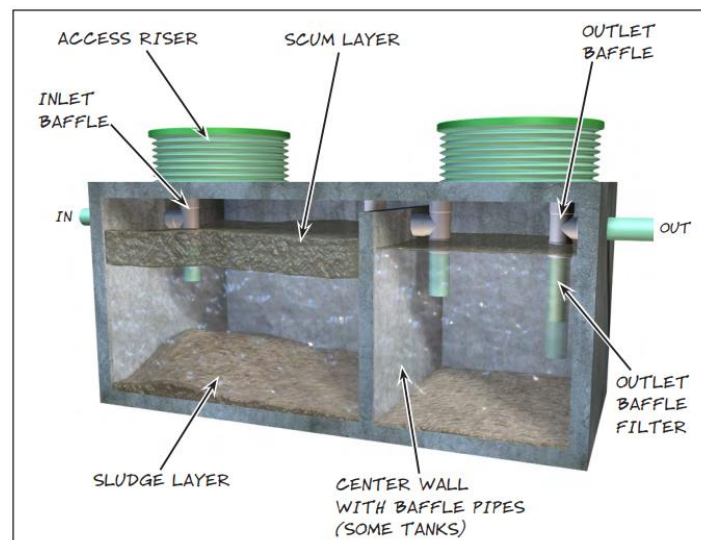

Figure 1: Septic Tank Detail (Source: WADOH)
- Septic tanks shall be level and utilize inlet baffles with an effluent filter placed on the outlet line to the drainfield (Figure 1).